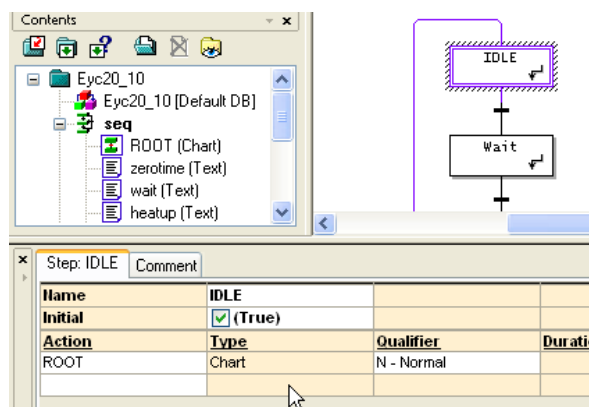

Figure 8-6 Associating an action with the 'IDLE' step
- 2 (Double-)click the 'IDLE' step to display its step pane at the foot of the window, in the *Object Properties Pane*. Your editor window should resemble Figure 8-6.